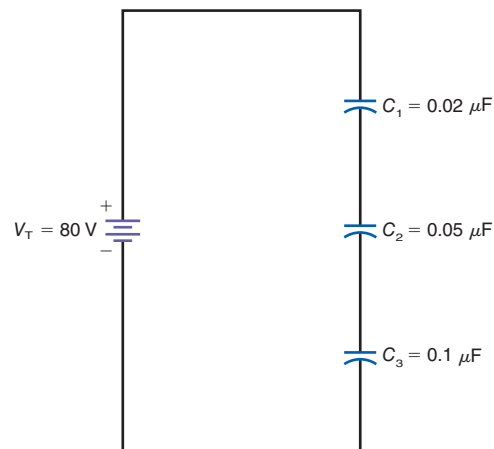

Figure 17-21
- 17.24** In Fig. 17-21, calculate V_{C_1} , V_{C_2} , and V_{C_3} .